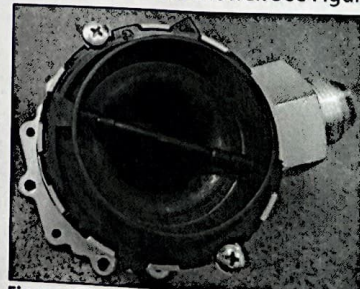

Figure 18 - Removed Polidoro Mixer
Step #7 - Use a 5mm allen wrench to remove the four (4) screws attaching the polidoro mixer to the blower. See Figure 18.